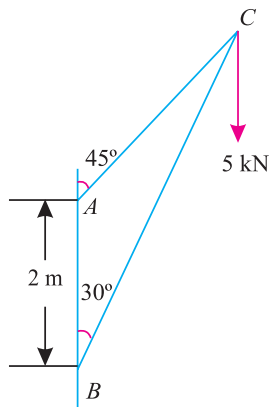

Fig. 5.32.
2. A jib crane shown in Fig. 5.32 is required to lift a load of 5 kN. Find, graphically, the forces in the jib and tie. Also check the answer analytically.